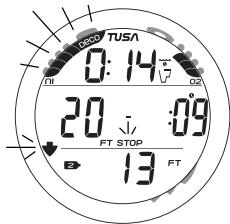

Fig. 74 - DV1 MAIN
**DV1 Main** information includes (Fig. 74) -